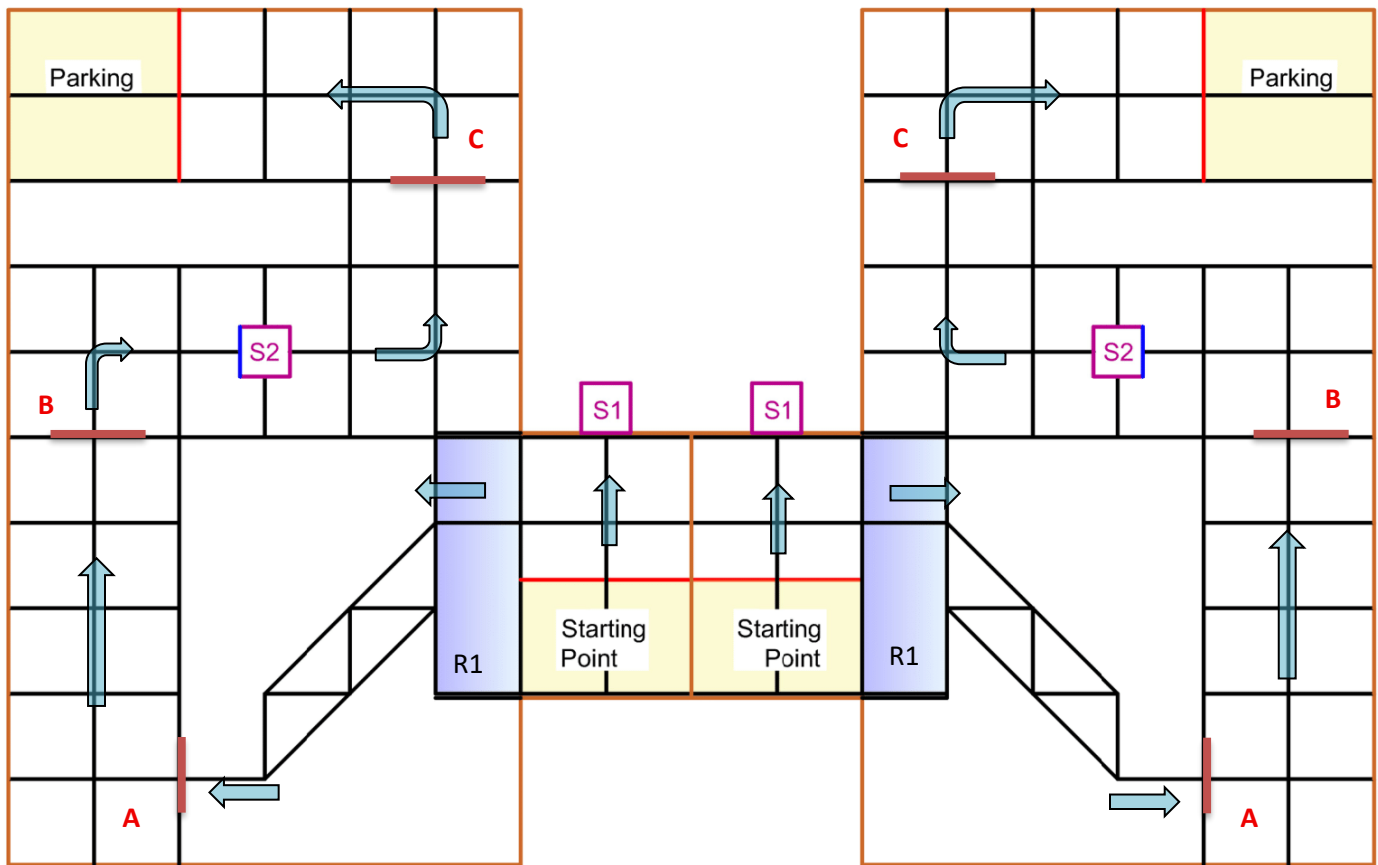

Figure 1: Contest Arena top view
NERC 2026 theme focuses on automation in modern warehouse logistics. In this theme, teams are required to build a modular robot capable of transporting and placing pallets within a warehouse environment. The robot must carry a total of 2 preloaded pallets (represented by dominos) and accurately deposit them into 2 defined storage racks located across the arena. The first team to successfully place the 2 pallets in their designated rack slots and reach the parking area will be declared the winner. The Contest Arena, representing a complete warehouse setup and the pallet placement location, is shown in Figure 1. Details are as follows:
1. Laminated wooden sheets (lasani) are used for the construction of the arena. The floor of arena will be of white color as shown in the map (Fig. 1). All the boundary walls and separation walls have a height of 5 inches throughout the arena. The solid line made with black tape of 3cm width (Dotted Line in Fig 1) present on the floor of arena can be used for line tracking. The entire arena is divided into 12x12 inch grids.
2. Two storage units, S1 and S2, are placed in the arena as shown in Figure 1.
7. The ramp region (R1), shown with gradient fill in Fig. 1, represents the inclined surface
8. The ramp and ramp-parking regions include extended features as shown in Fig. 1:
9. The starting position and orientation of the robots are fixed. The robot must be placed behind the starting line shown in Fig. 1 with red color. The complete robot should be behind the line. The red colored line is only for reference in Fig. 1, it will be a solid black colored line on actual arena.
10. At the start of the match, the robot will be positioned at the starting point as shown on Fig.1, carrying two preloaded parcels.
line, and no part remains on or above the line. (The line shown in red in Fig. 1 is for reference only and will be a solid black line on the actual arena.)
26. Blue arrows, red checkpoints, red starting line, and red ending/parking lines shown in Fig. 1 are for reference only. These markings will not be present on the actual arena. On the physical arena, starting and parking lines will be solid black.
- Blue arrows, red checkpoints, red starting line, and red ending/parking lines shown in Fig. 1 are for reference only. These markings will not be present on the actual arena. On the physical arena, starting and parking lines will be solid black.
\* Crossing means that any tire of the robot must have crossed the red marker line at the checkpoints mentioned, as shown in Fig. 1.